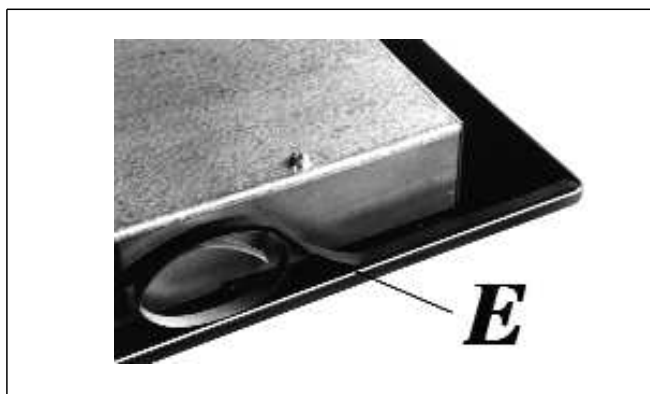

FIG. 9
- Overturn the hot plate and correctly position seal "E" (fig. 9) under the edge of the hot plate itself, so that the outer side of the seal perfectly matches the outer perimetral edge of the crystal. The ends of the strips must fit together without overlapping.